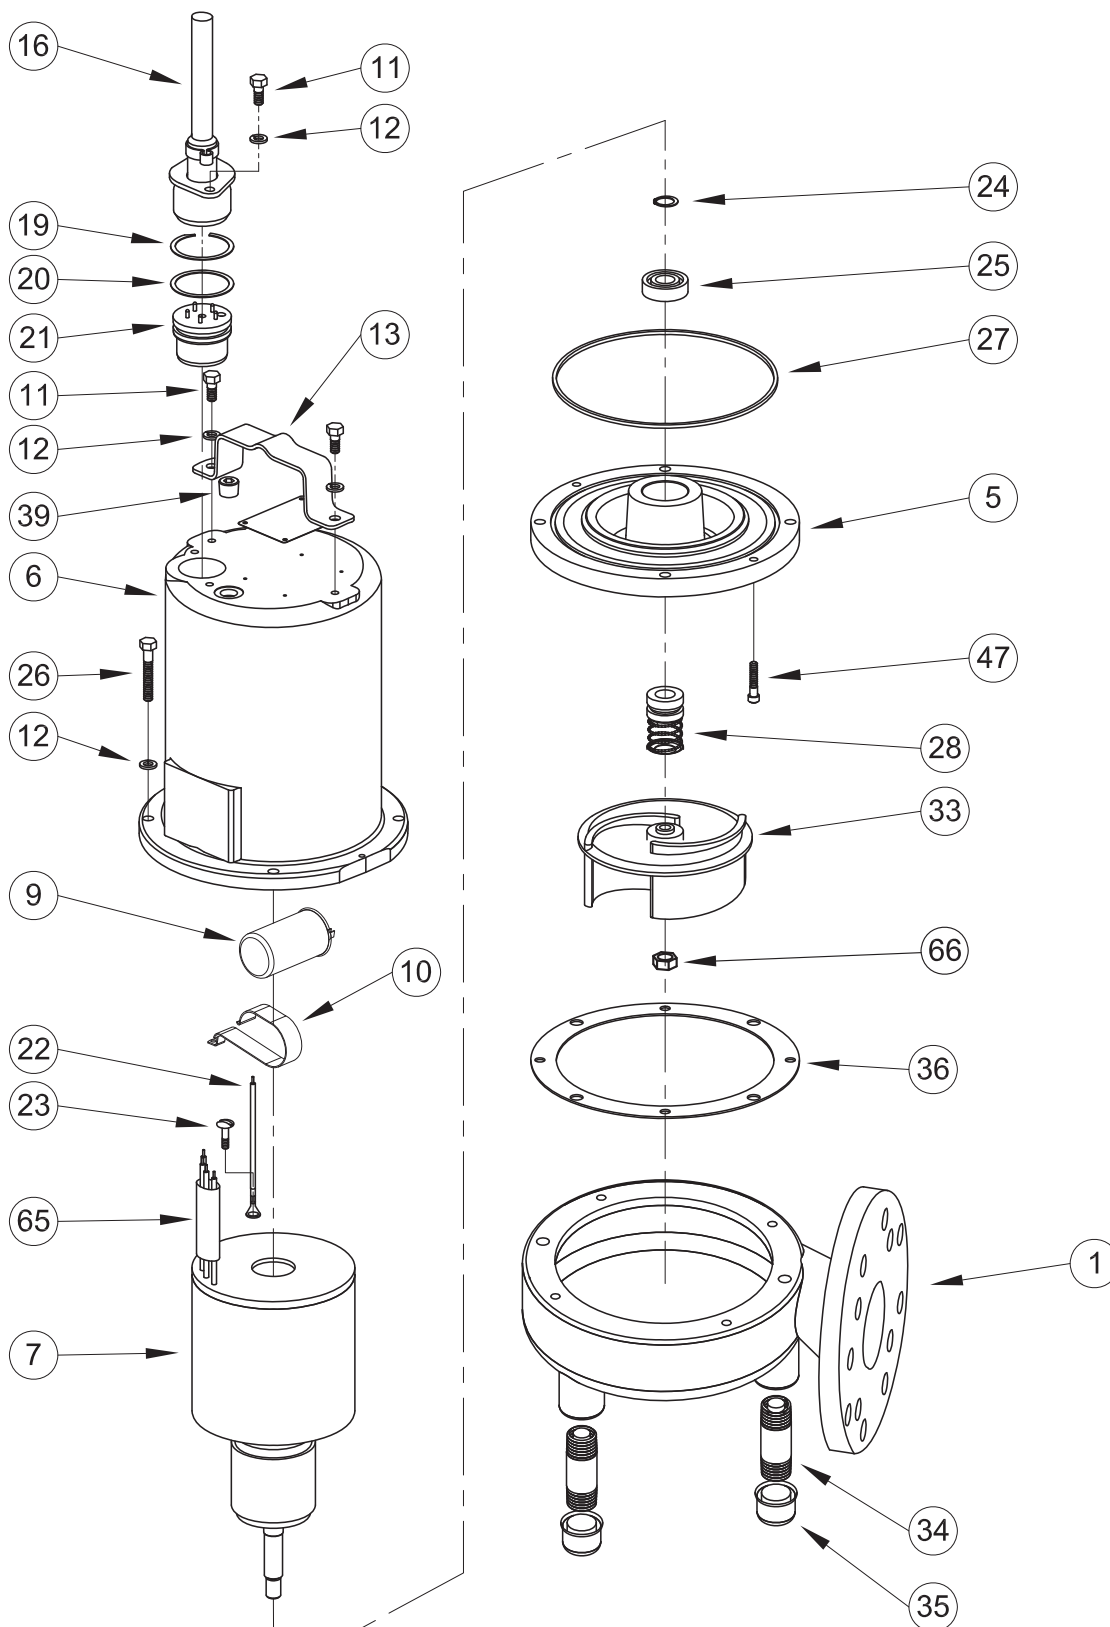

FIGURE 17
Moisture Sensors, DS Models - If pump is equipped with optional moisture sensors, reassemble by applying thread compound to threads on probes (4) and install in upper seal plate (5), see Figures 17 & 18. Connect wire assemblies (53) to probes (4) with washers (46) and machine screws (45).